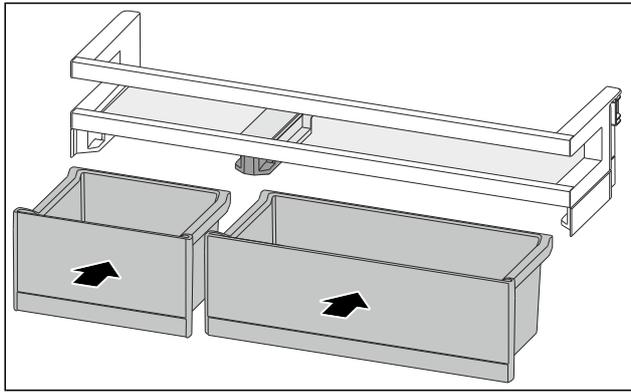

Fig. 92
- ▶ Insert the VarioBoxes in reverse order. (see Fig. 92)